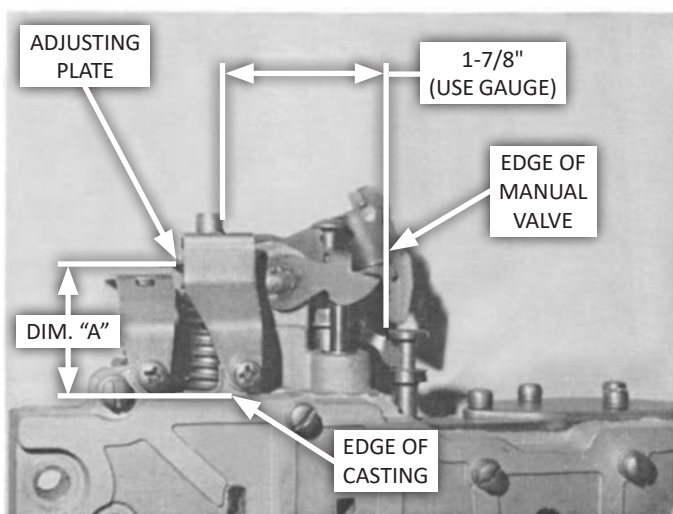

FIG. 10
16. Use the supplied gauge to set the distance between the manual valve and the adjusting screw to 1-7/8" (Fig. 10). When the dimension is correct, tighten the 3 retainer screws to 35 in-lbs.
17. Use the supplied gauge to set Dim. "A", the distance from the edge of the valve body casting to the lower face of the adjusting plate (Fig. 10). Adjust the plate as follows: